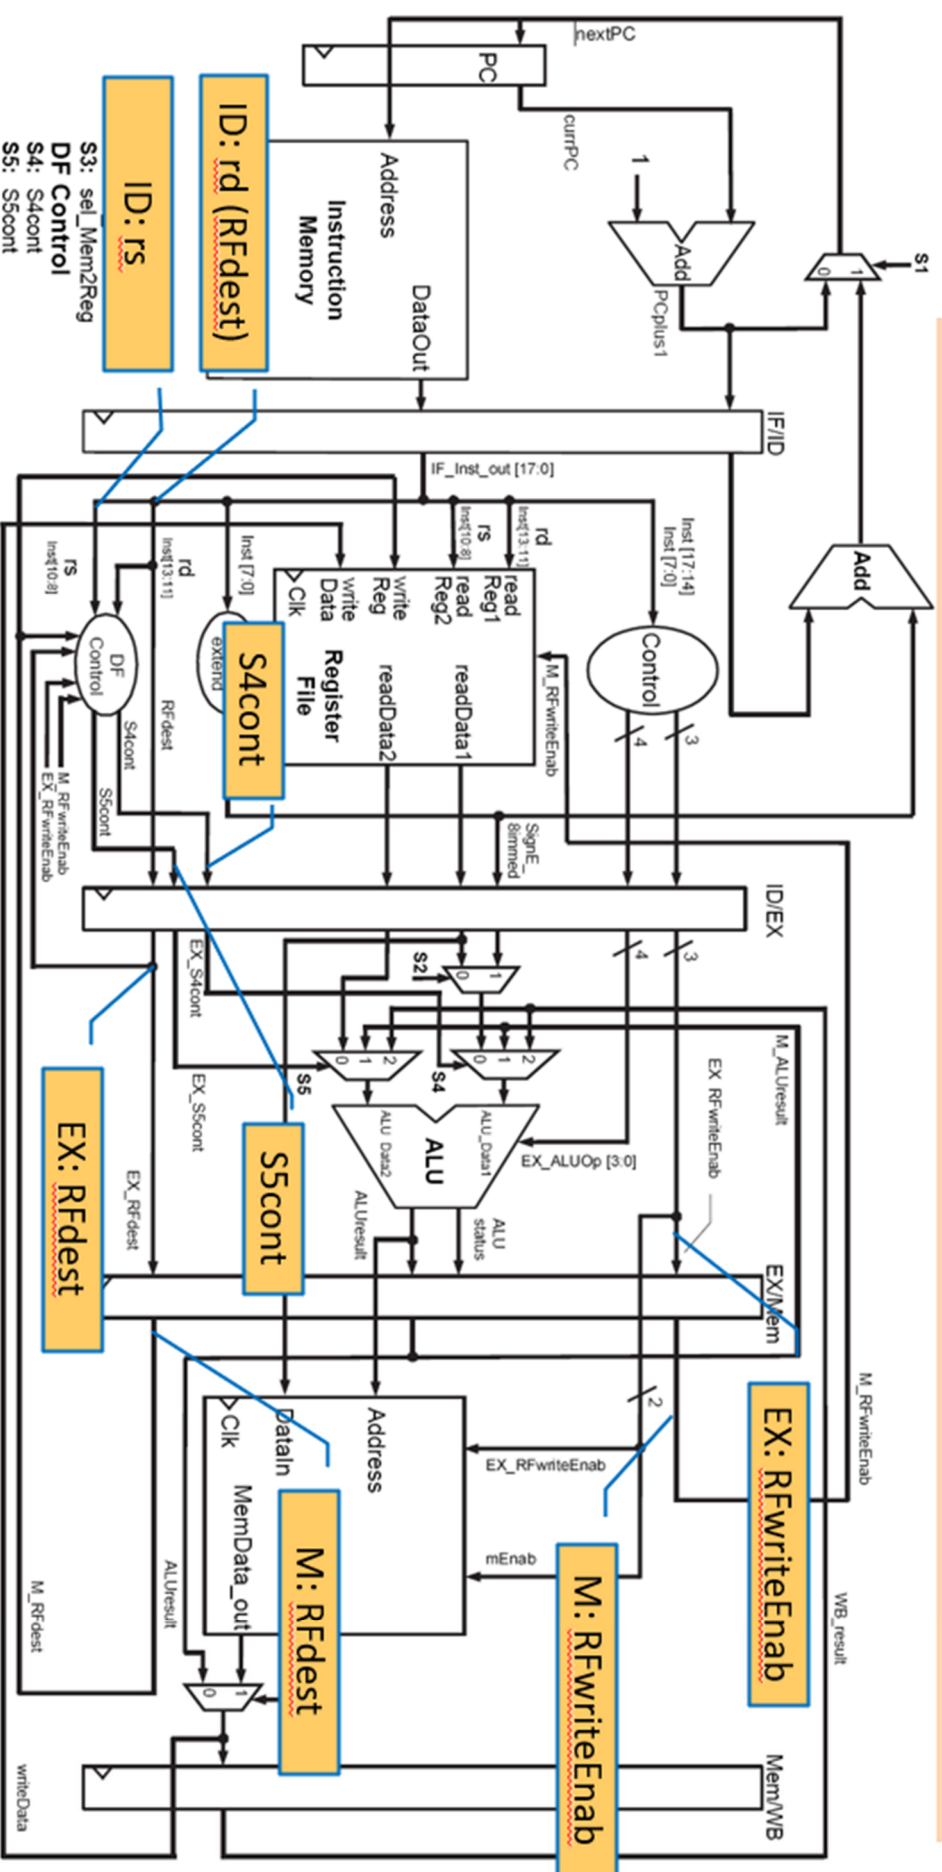

Figure 2: Slide from module 8: uP Case Study
7. Implement data forwarding by converting the pseudocode example (shown in Figure 2) to Verilog. Place your Verilog code inside the *DF_control* module just below the comment: "// You will need to comment out the above two statements and implement data forwarding control here". The variable names in the *DF_control* module port list will need to be strictly adhered to in your code. Correct any errors.